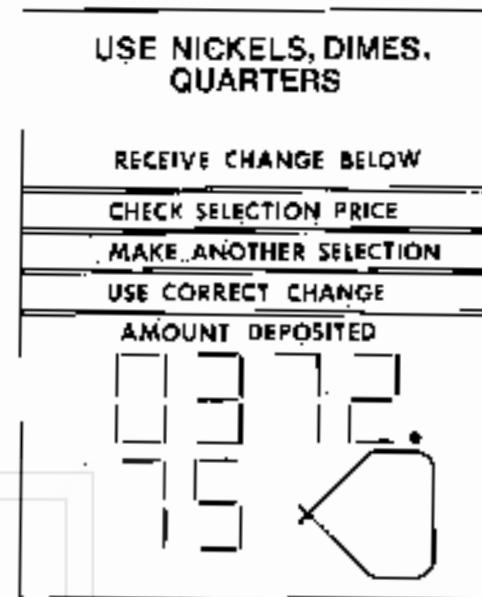

Figure 18. SHOWING \$3.72
- B. Press button #4 on the selection panel and the total dollars vendored by the machine will be displayed (Figure 18).